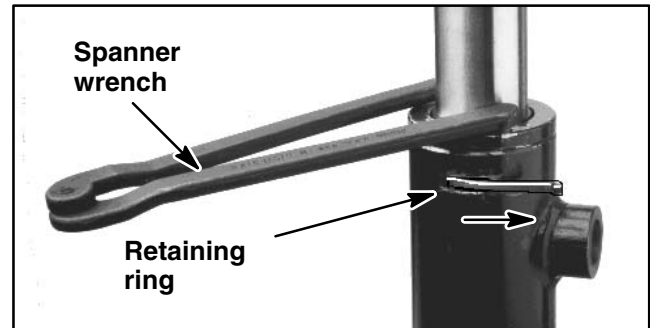

Figure 45
3. Rotate head (item 8) with a spanner wrench and remove retaining ring (item 6) as shown in Figure 45.